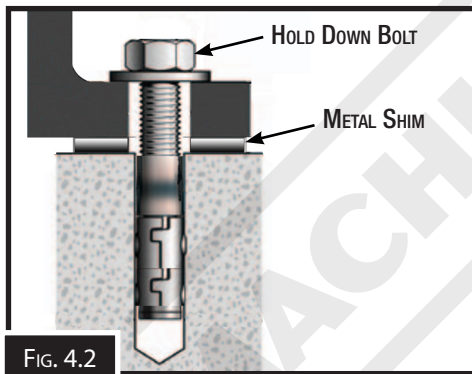

FIG. 4.2
2. Rotate the setback adjusting wheels (#35) at the back of the machine on either side. Turning the wheels one way will cause the clamping wing to move forward. Turning it the other way will cause the clamping wing to move backward. (Fig. 4.2)